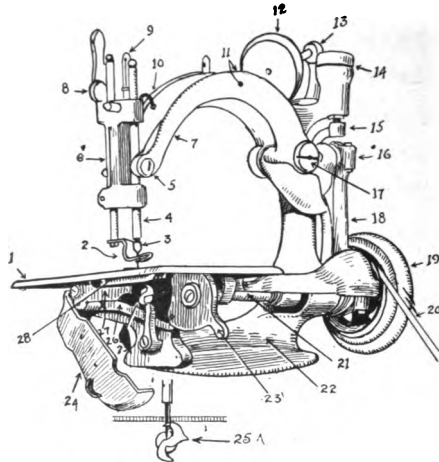

FIG. 138. Chain-stitch machine.
**239. Chain-Stitch Machine.** In the chain-stitch machine (Fig. 138), the shaft turns a device which draws a loop of thread thru each foregoing loop, thus making a stitch similar to crocheting, but having the cloth interlocked with the stitch. The needle carries the thread and makes it tight or loose as needed. The feed plate carries the cloth under the needle.
actly according to instructions. If not properly threaded, it will fail to stitch—the thread will tangle. If the bobbin is not properly threaded, it will not have the proper tension, and the machine cannot sew as it should. The bobbin thread will break if it is not properly threaded thru the bobbin case. It will also break if the bobbin tension is too tight (No. 14, Fig. 138).